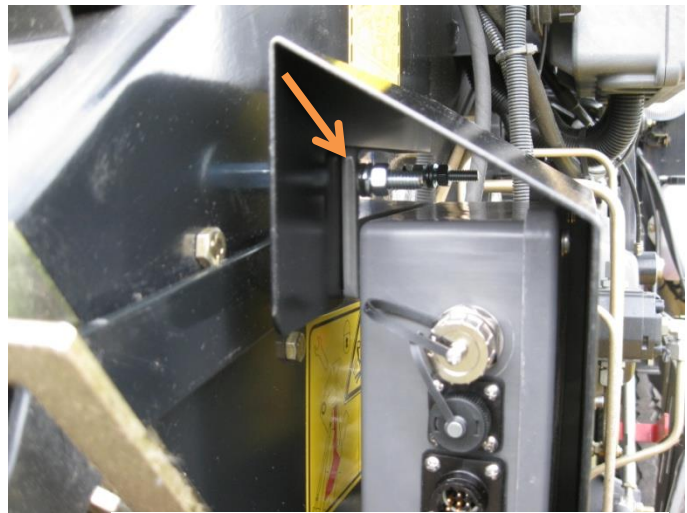

Figure 8
7. Before tightening hardware install the DCP shield (001-5650X) over the top two 5/16" bolts between the fender washers and the mounting plate of the DCP. And finally tighten all hex nuts. (Figure 8)